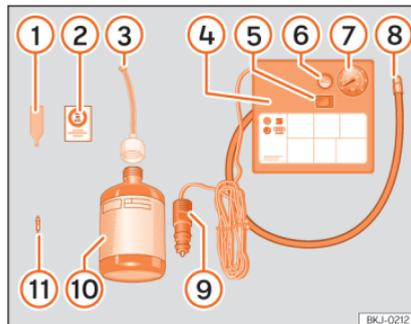

Fig. 31 Standard representation: anti-puncture kit contents.
»» **Fig. 31:**
- Unscrew the tyre valve cap and insert. Use the »» Fig. 31 ① tool to remove the insert. Place it on a clean surface.
- Shake the tyre sealant bottle vigorously »» Fig. 31 ⑩.
- Screw the inflator tube »» Fig. 31 ③ into the sealant bottle. The bottle's seal will break automatically.
- Remove the lid from the filling tube »» Fig. 31 ③ and screw the open end of the tube into the tyre valve.
- Place the insert back into the tyre valve using the tool »» Fig. 31 ①.
- Screw the compressor tyre inflator tube »» Fig. 31 ⑧ into the tyre valve.
- Check that the air bleed screw is closed »» Fig. 31 ⑥.
- Insert the connector »» Fig. 31 ⑨ into the vehicle's 12-volt socket »» page 136.
- Turn the air compressor on with the ON/OFF switch »» Fig. 31 ⑤.
- Attach the sticker »» Fig. 31 ② to the instrument cluster, within the driver's visual field.
Screw the inflator tube >>> **Fig. 31** ⑤ again and check the pressure on the gauge ⑥.